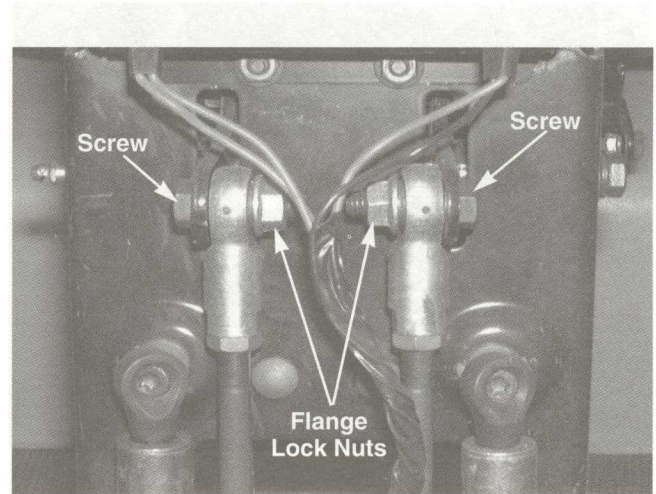

FIGURE 15.
24. Secure the alignaballs and hex cap screws to the bellcrank assemblies with the flange lock nuts removed earlier using a 9/16 socket and a 9/16 wrench. See figure 15.